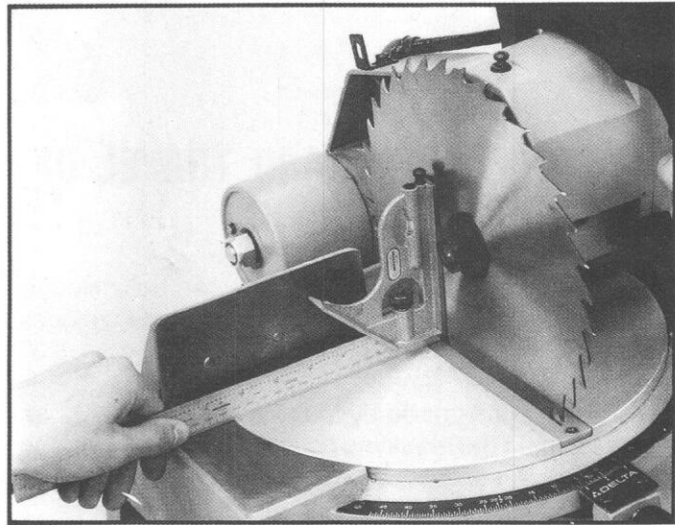

Fig. 27
6. Re-assemble the saw blade, lower the blade and with a square, place one end of the square on the table and the other end against the blade, as shown in Fig. 27, to determine how much adjustment must be made.